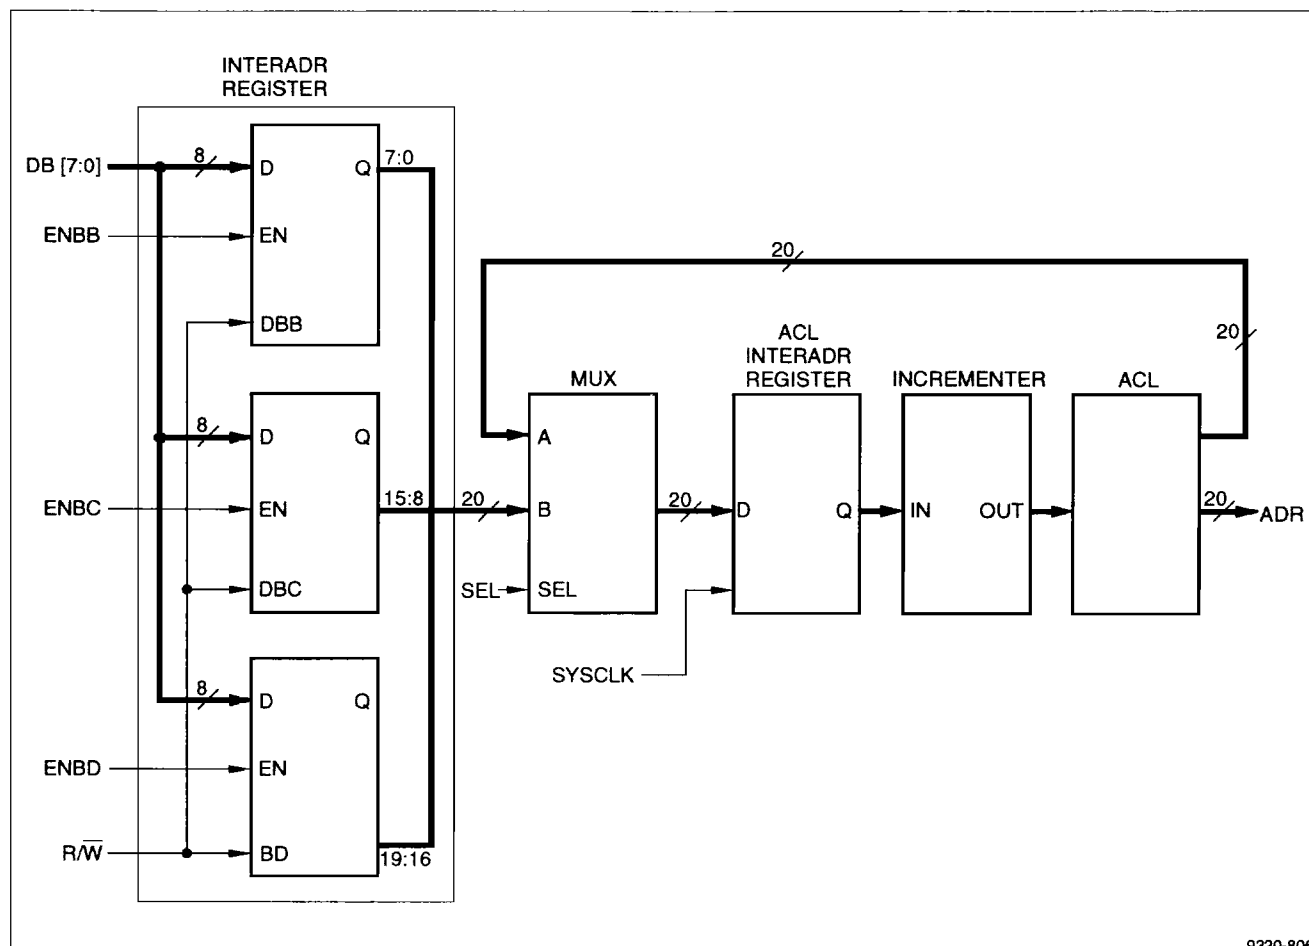

Figure 5. Reading the INTERADR Register
**Note:** Figure 5 shows INTERADR is selected (SEL = 1) only the first time the INTER, INTERP, INTEREP or INTERLP address pattern is used after a reset. The ACL INTERADR register (not accessible by the user) is used by all subsequent address patterns (i.e., when SEL = 0).